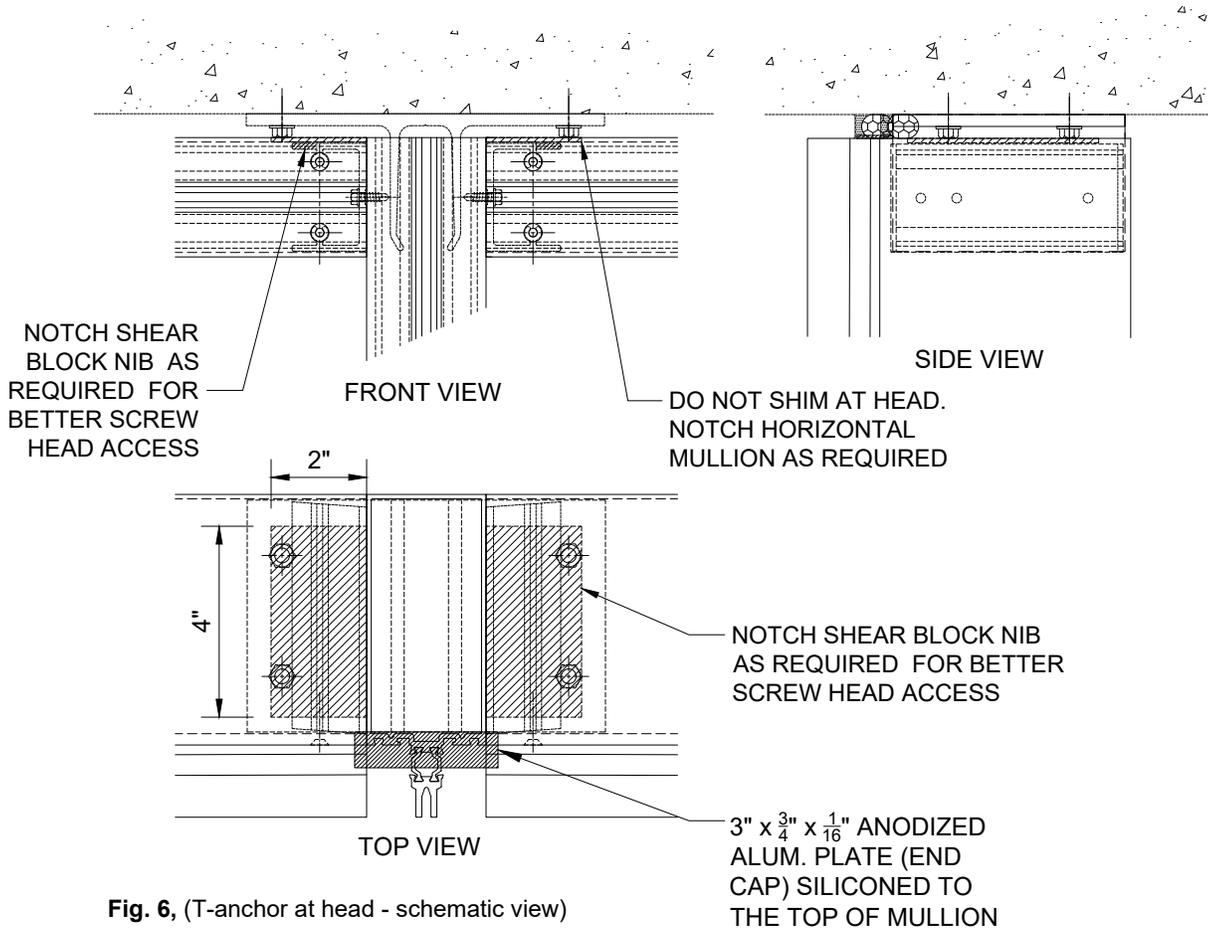
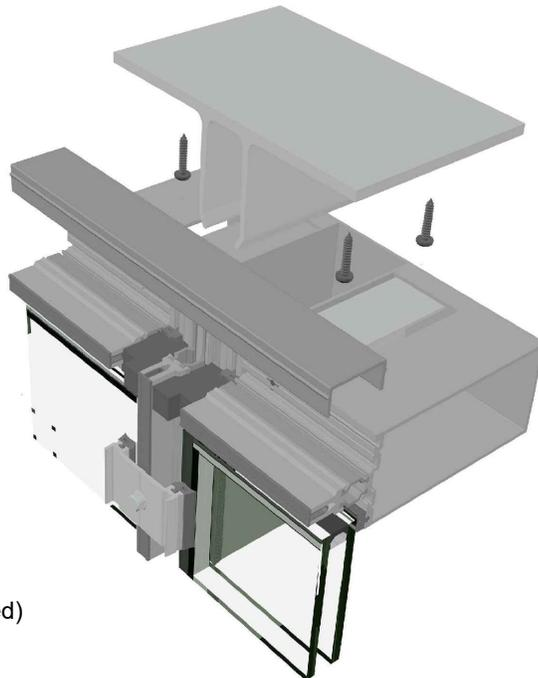

Fig. 6, (T-anchor at head - schematic view)
Fig. 7, (T-anchor at head - sequenced)
- 3.4 Check DLO every four bays to ensure correct spacing and prevent dimensional buildup. When framing members are installed, install PVC spacer around the perimeter of the frame (Fig. 7). Anodized aluminum plate is to be used at the head (as shown in Fig. 6), to apply the continuous perimeter air seal.